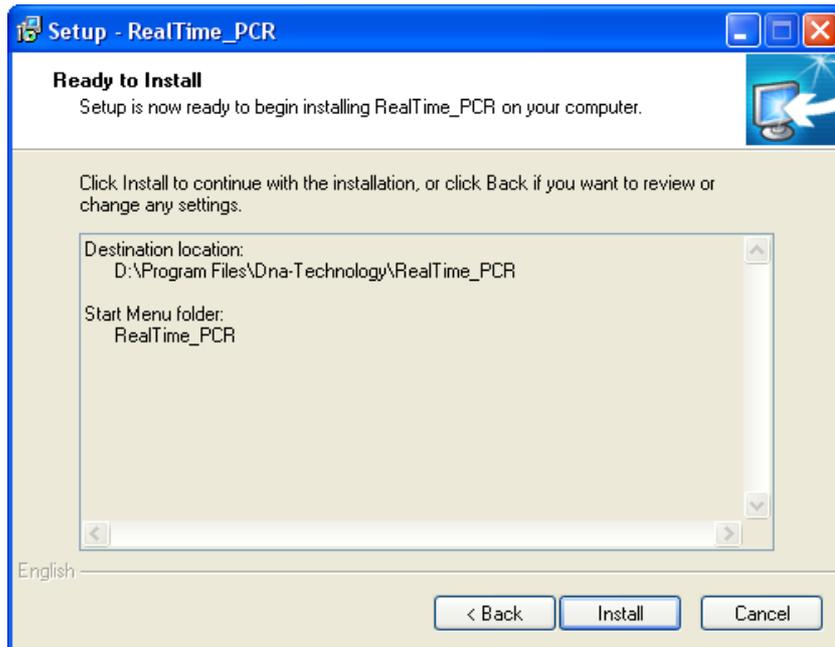

Fig.18. Confirmation window
- Confirmation window will appear, informing that software is ready for setup (Fig. 18). Check the chosen options and click  .